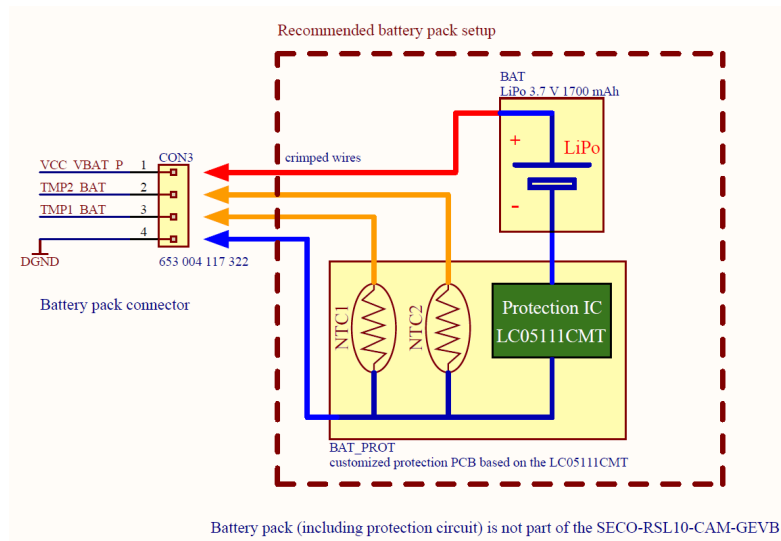

Fig.10 High level principal schematic of re-chargable battery connection and its protection circuit towards CON3
2. The protection circuit consists of two NTC temperature sensors that monitor battery temperature. NTC1 connects via TMP1_BAT header towards battery charger FAN54120, NTC2 applies for fuel gauge LC709204. The connection of battery pack is in the system schematic (Fig. 10). To safely operate SECO-RSL10-CAM-GEVB with external battery, recommended protection circuit shows Fig. 11 and physical implementation Fig. 12. Protection PCB is not part of the delivery and not the orderable item from ON Semiconductor. However, the complete manufacturing data, schematic, BOM is available under ON Semiconductor's web.